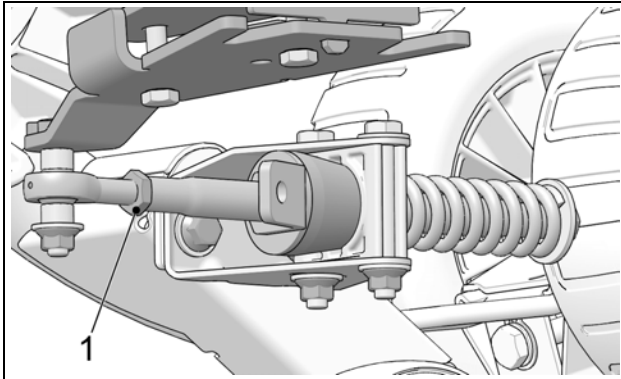

Figure 8
- When angle of attack is correctly set, tighten the jam nut (1) back against the stabilizing arm to 40 N•m [30lb•ft] of torque. See Figure 8.